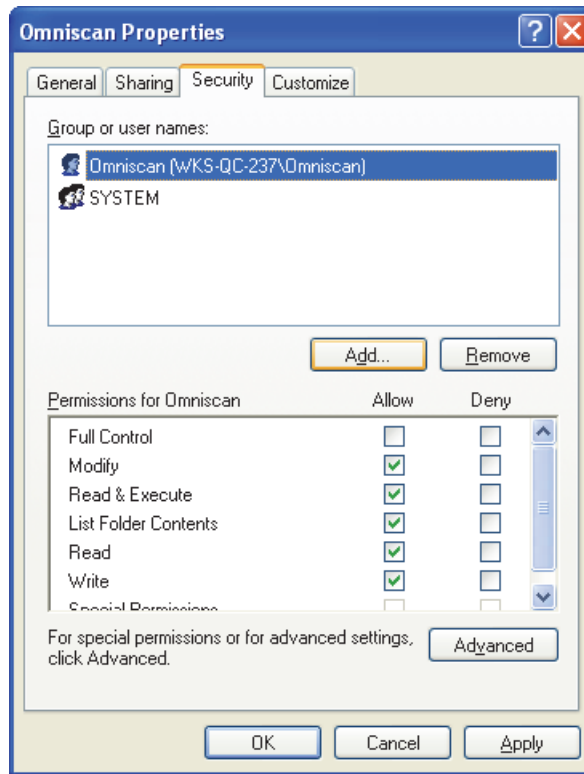

Figure 7-19 Security permissions for the Omniscan user
16. Back in the **Security** tab of the **Omniscan Properties** dialog box (see Figure 7-19 on page 209):